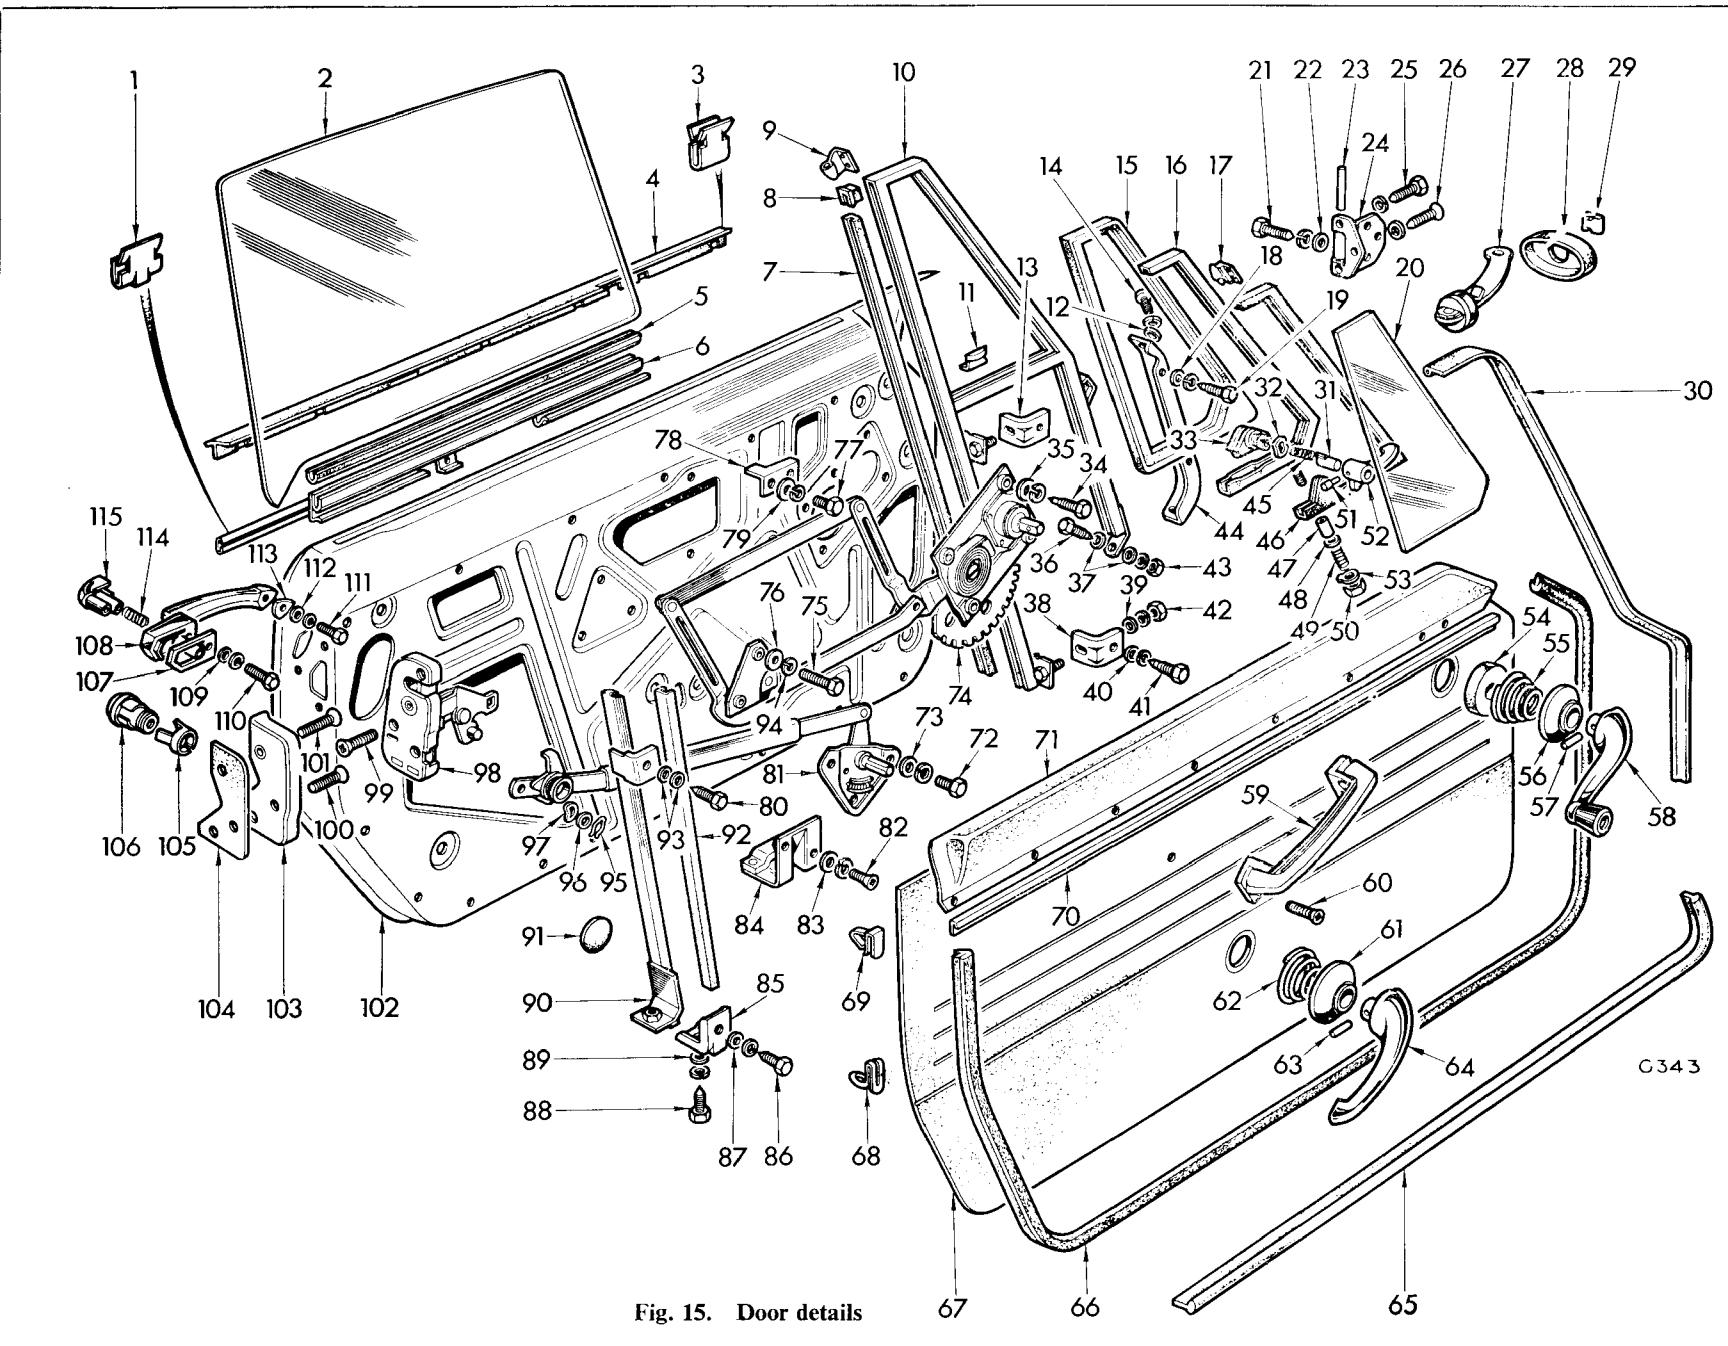

Fig. 15. Door details
Key to Fig. 15
2. Remove the grab handle, two screws (60) (Fig. 15).
2. Remove two screws (110) (111) (Fig. 15).
2. Compress the spring clip (105) (Fig. 15) and push out.